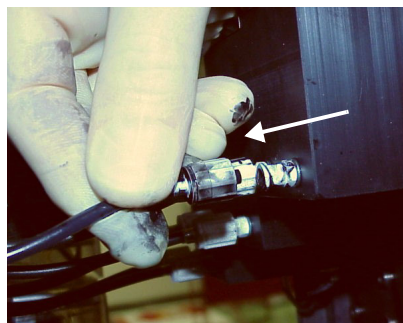

Figure 54. **Removing Plastic Coupler from the Secondary Tank**
7. Carefully unscrew (in a *counter-clockwise* direction) and disconnect the ink pipe plastic coupler from the secondary ink tank as shown in Figure 54.